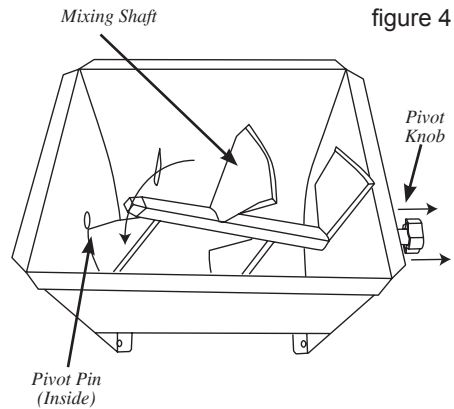

figure 4
**Brass Pivot Pin** to seat in the **Bushing** (figure 4).